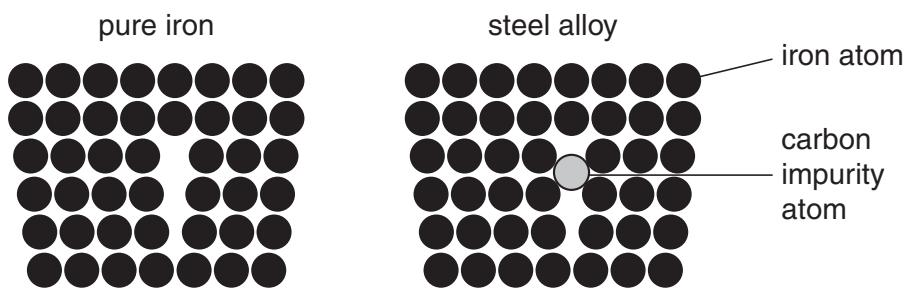

Fig. 9.1
- (ii) Drill bits can be made from steel alloy. Fig. 9.1 shows the microstructures of pure iron metal and a steel alloy.
State the meaning of the term *ductile* and describe how Fig. 9.1 can be used to help explain why steel is less ductile than iron.